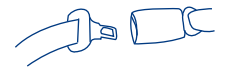

Fig. 18-2
- ii) A lap belt that cannot be lengthened once it is fastened is suitable for use with the Safety Seat. These seat belts often have an automatic locking retractor that will allow the belt to be lengthened but once fastened, must be unbuckled and allowed to retract fully before allowing the belt to be lengthened again (Fig. 18-2).